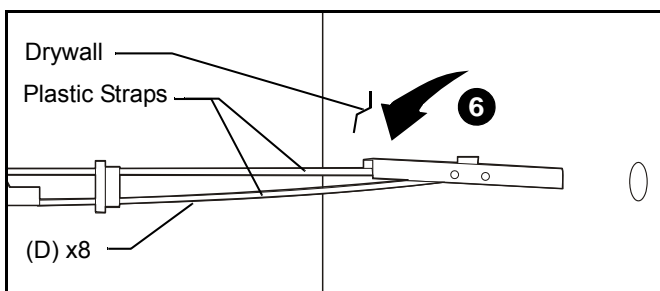

Figure 3
6. Hold metal channel on anchor (D) flat alongside plastic straps and slide channel through hole. (See Figure 3)